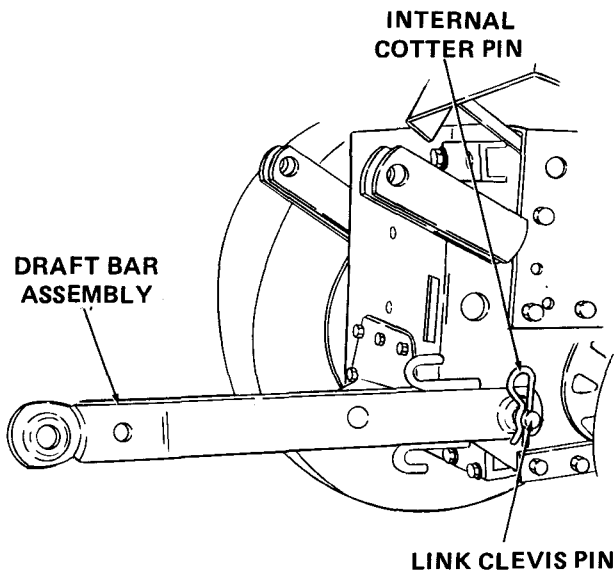

Figure B-17
7. Install draft bars (5) by positioning them over link clevis pin (C) and securing with internal cotter pin (O). Draft bar should angle away from the unit. Refer to Figure B-17.